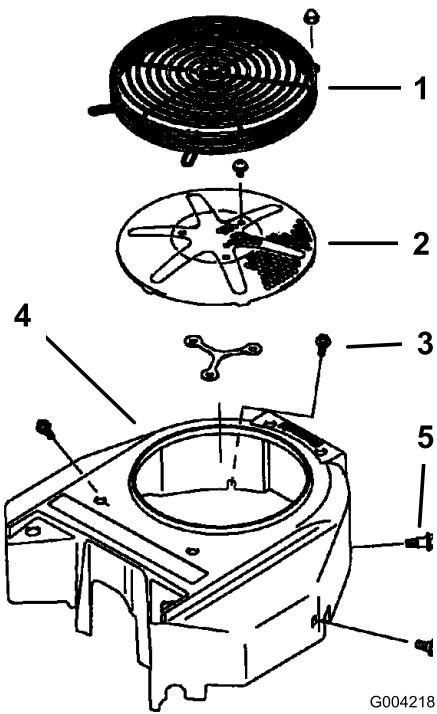

Figure 72
Before each use remove any build-up of grass, dirt or other debris from the engine screen. This will help insure adequate cooling and correct engine speed and will reduce the possibility of overheating and mechanical damage to the engine (Figure 72).
3. Remove the air intake screen, recoil starter and fan housing (Figure 72).
5. Install air intake screen, recoil starter and fan housing (Figure 72).